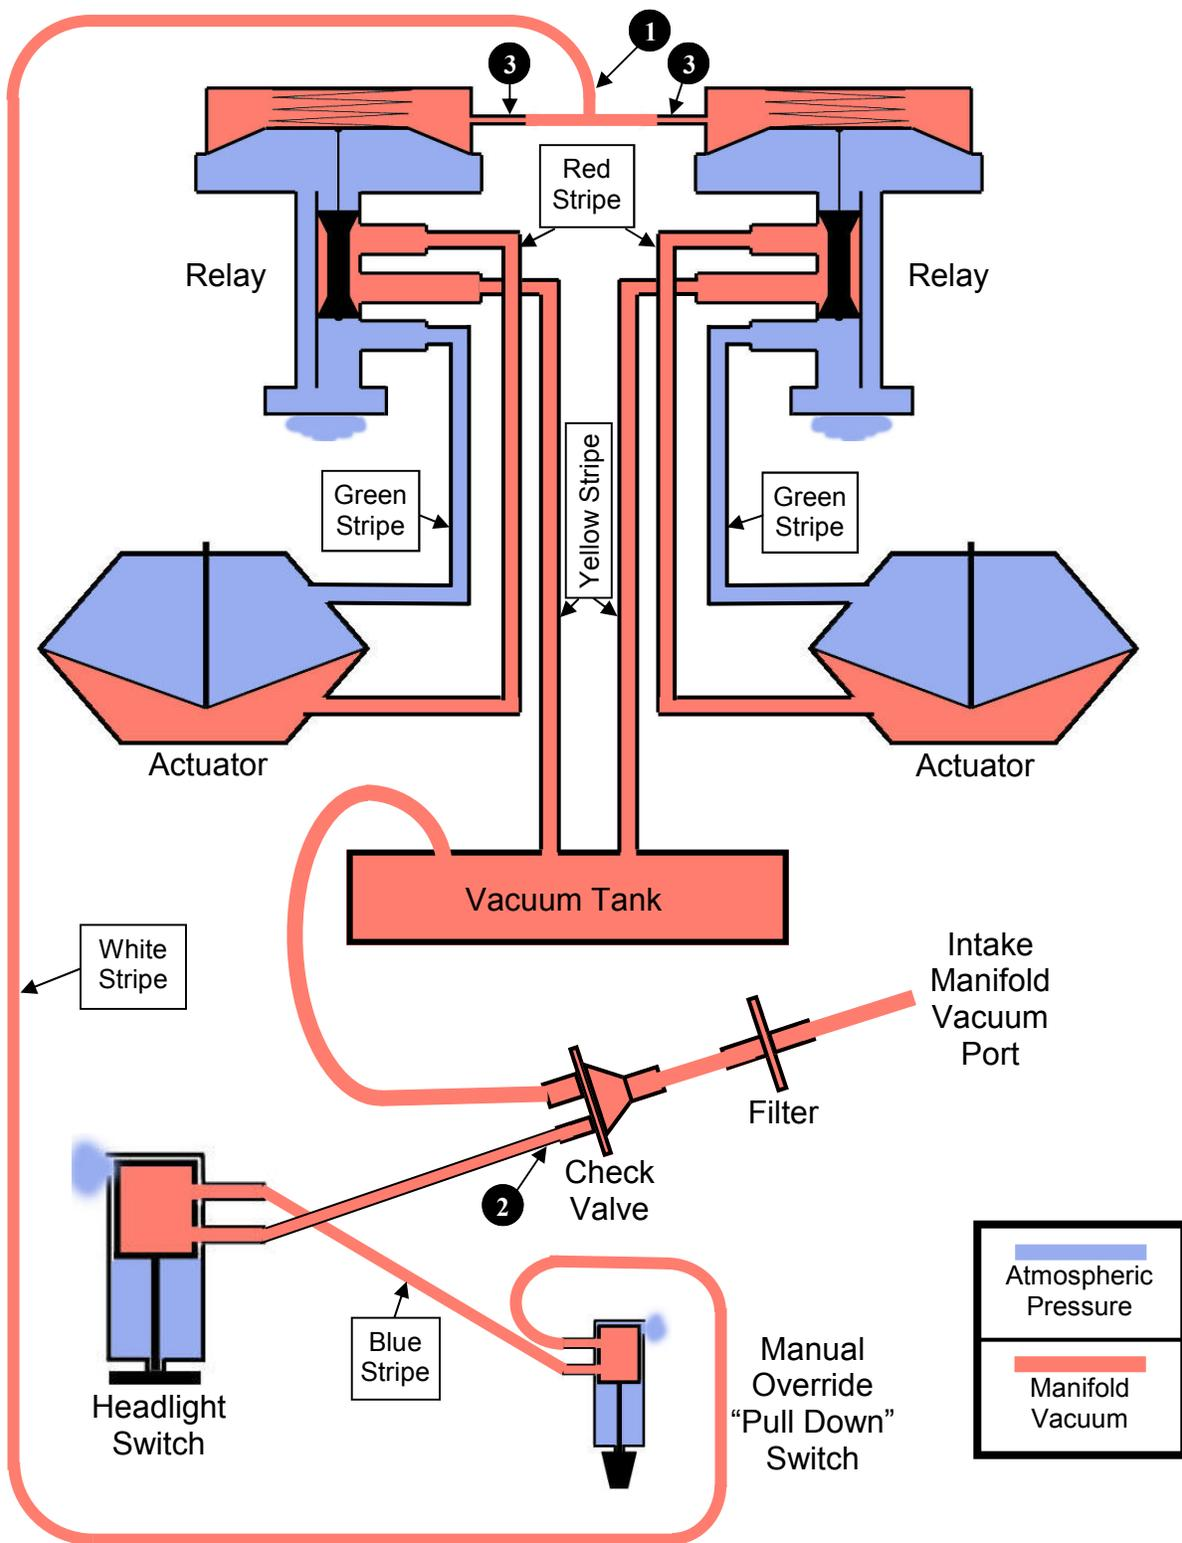

Figure 1: Headlight Switch in "OFF" Position
Figure 1: Shows the system state after engine start (and vacuum has accumulated) with headlight switch “OFF” and Manual Override “Pull Down” Switch in the “UP” position. Note that in the relays, vacuum “pulls” the diaphragms and dog bone valves upward against the springs. This action ports vacuum from the tank to the rear of each actuator. Thus our headlights are, in fact, held down by vacuum (or pushed down by atmospheric pressure) when our headlights are switched off.
These diagrams can also serve as troubleshooting aids. For example, Figure 1 illustrates that with the engine off, headlights off, and the manual override “pull down” switch in the up position, you can easily test the vacuum integrity of the in-dash components and hoses. Disconnect and plug the single white-striped hose at the “T” immediately above the relays at ❶ then disconnect the small hose from the check valve at ❷ and connect and operate a vacuum pump to that hose at that point. If that part of the system holds a vacuum, you can conclude that the included hoses and components are functional. If that part of the system does not hold a vacuum, then individual hoses and components need to be tested and replaced as necessary..
It’s a bit more involved to verify movement of the “dog bone” valves in the relays. With headlights in the UP position, remove the hoses from the “T” to the tops of the relays (see ❹ in Figure 1). Attach a short length of vacuum hose and your vacuum pump. Pump until vacuum does not increase. Using a vice grip pliers, pinch off the hose so vacuum is maintained in the top of the relay. Then attach your vacuum pump to the relay’s center (yellow) port. Again, it takes a fair amount of pumping, but if the “dog bone” valve moved correctly and the other connected components are sealing properly, the headlight will slowly retract.